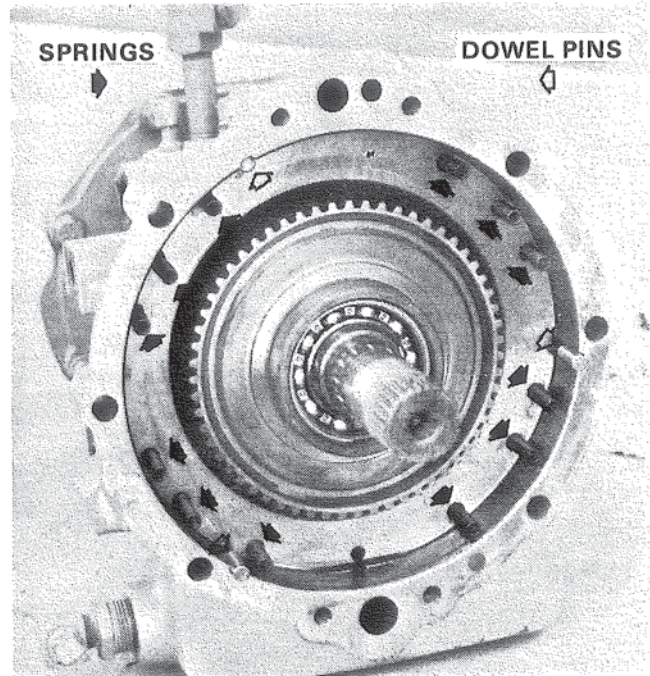

Figure 20. Removing Twelve (12) Pressure Plate Springs and Three (3) Dowel Pins.
6. The twelve (12) pressure plate springs and the three (3) dowel pins can now be removed. Figure 20.